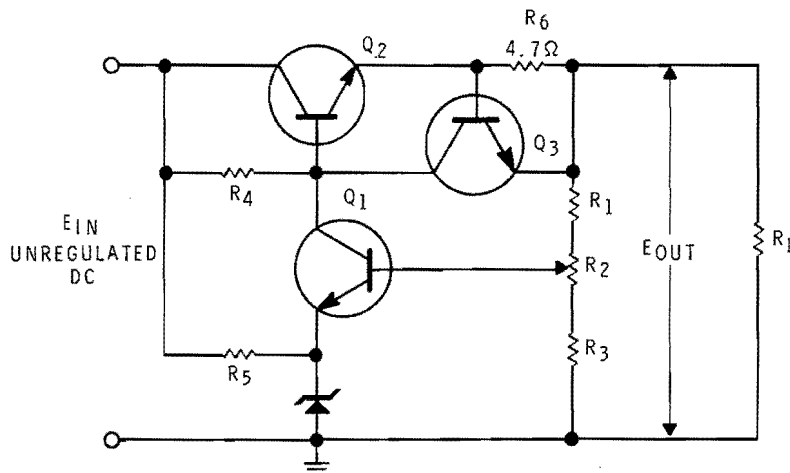

Figure 4-67
12. Refer to Figure 4-67. When the arm of  $R_2$  is moved up:
13. Refer to Figure 4-67. The purpose of  $Q_3$  and  $R_6$  is to: